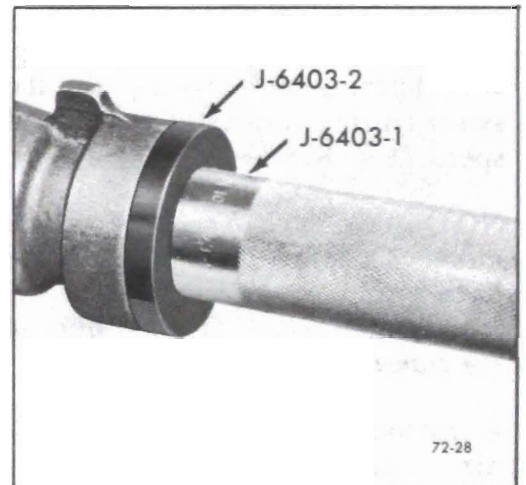

Figure 72-327 Installing Rear Bearing Retainer Oil Seal
a. Install Tool J-6403-2 onto Tool J-6403-1. See Figure 72-327.